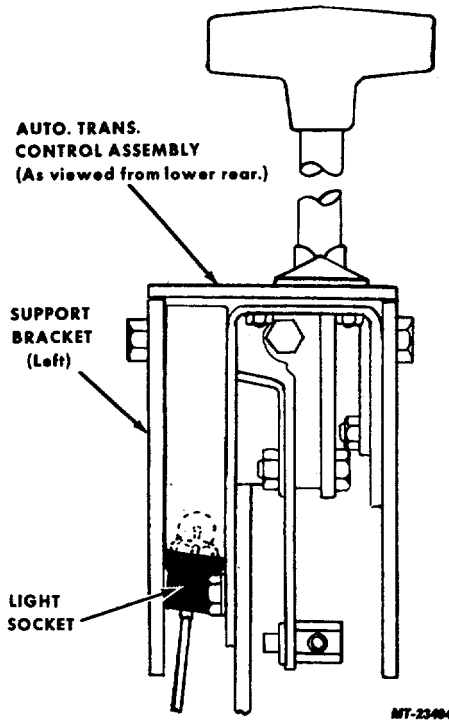

Fig. 20 Automatic Transmission Control Light
1. Grasp light socket and disengage socket from hole in control housing. **DO NOT** pull on wire to remove socket. (See Figure 20).